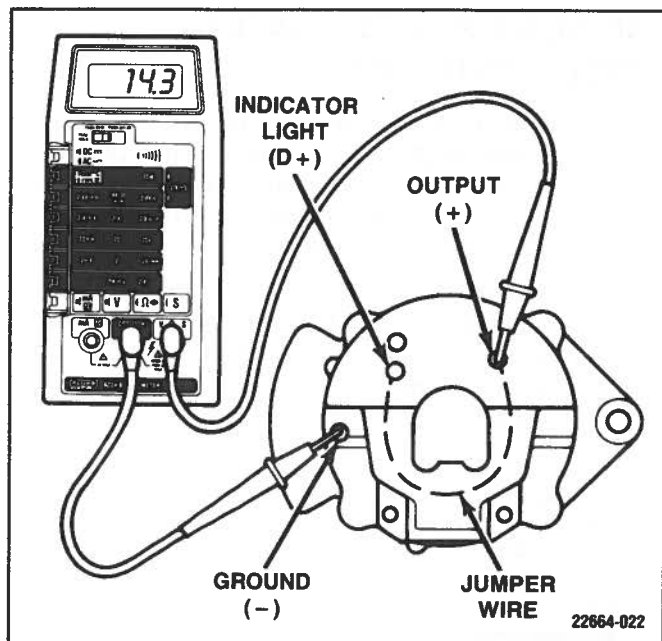

Figure 6-63. Diode-Trio Voltage Check
3. Turn the ignition switch OFF. Connect a jumper wire between the output (+) terminal and the indicator light (D+) terminal (Figure 6-63).
5. Connect a voltmeter to output (+) terminal and ground (–) terminal (Figure 6-63). If a reading ranging from 13.5-15.0 V is obtained, the diode trio is defective (open). Remove alternator for repair.